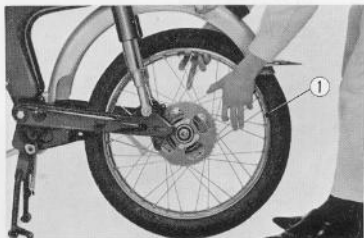

Fig. 4.95 Removing rear wheel
7. Remove the rear wheel. (Fig. 4.95)